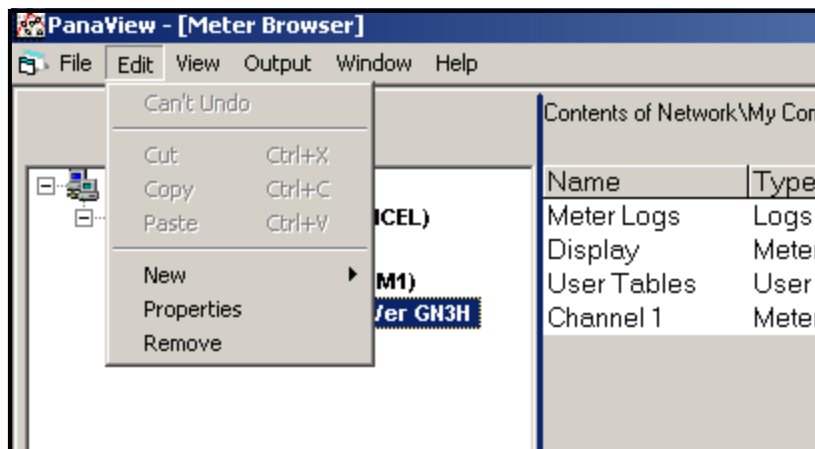

Figure 25: The *Properties* Option in the *Edit* Menu
2. Open the “Edit” menu and select the “Properties” option, as shown in *Figure 25* below.